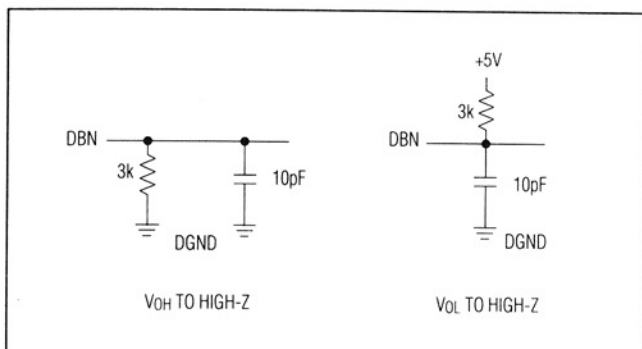

Figure 4. Load Circuits for Output Float Delay Test ( $t_{14}$ )
**Note 7:** t14, the time required for the data lines to change 0.5V, is measured with the load circuits of Figure 4.